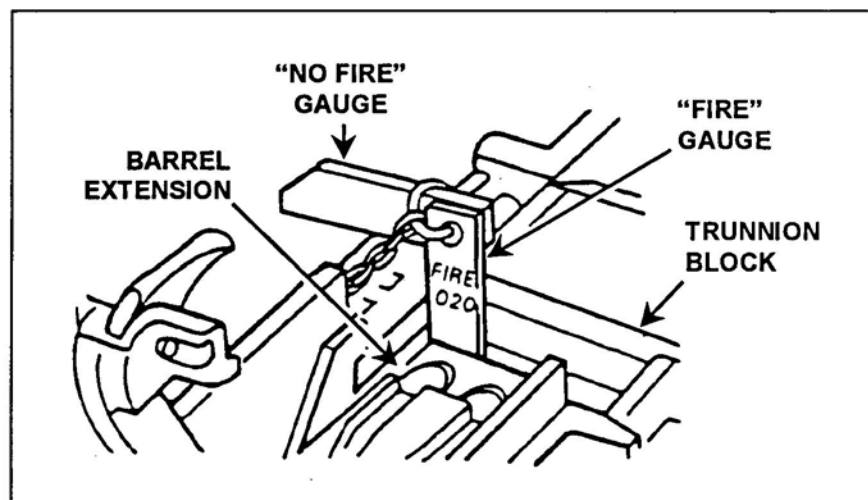

Figure 7. "Fire" Positioning
- (4) Depress the trigger. The gun should not fire. If it does not, continue the timing check. However, if it does fire, go to Step 2b.
- (5) Grasp the retracting slide handle. Retract the bolt just enough (1/16th inch) to remove the NO-FIRE gauge. Insert the FIRE gauge between the barrel extension and trunnion block, with the beveled edge of the gauge against the notches in the barrel (Figure 7). Release the retracting slide handle slowly.
- (1) Remove the gauge.
- (2) Pull the bolt to the rear with the retracting slide to cock machine gun. Press the bolt latch release, and allow the bolt to go forward slowly. DO NOT press the trigger.
- (3) Grasp the retracting slide handle. Retract the bolt just enough to insert the FIRE gauge between the barrel extension and the trunnion block, with the beveled edge of the gauge against the notches in the barrel (Figure 7).